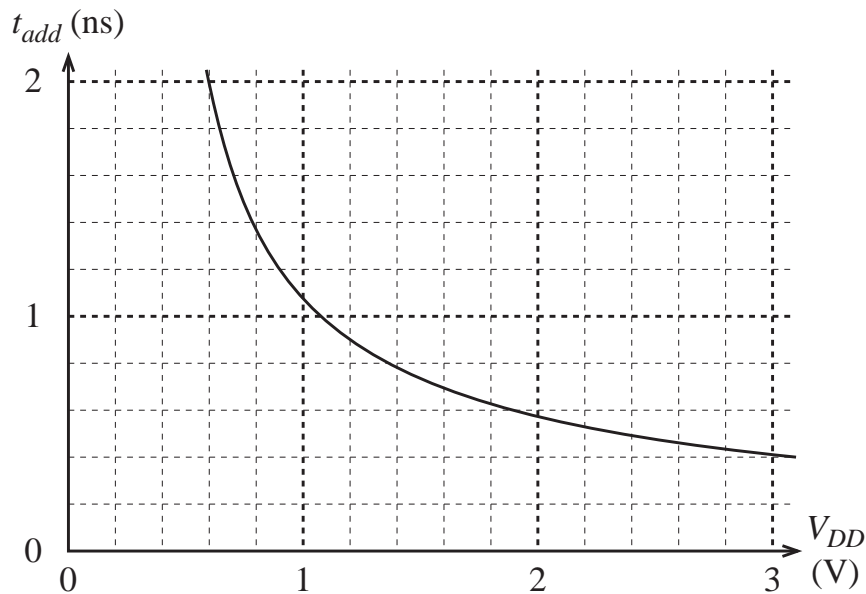

Figure 5.  $t_p(V_{DD})$  for a register-multiplier-multiplexer path.
- b) Assume that the new interleaving scheme has not affected the transition activity and that the new multiplexer can be implemented with the same propagation delay. The propagation delay of a register-multiplier-multiplexer branch plotted as a function of the power supply voltage is shown in Figure 5. Use voltage scaling to reduce the new minimal dynamic power consumption. Estimate the power savings. (8 p)